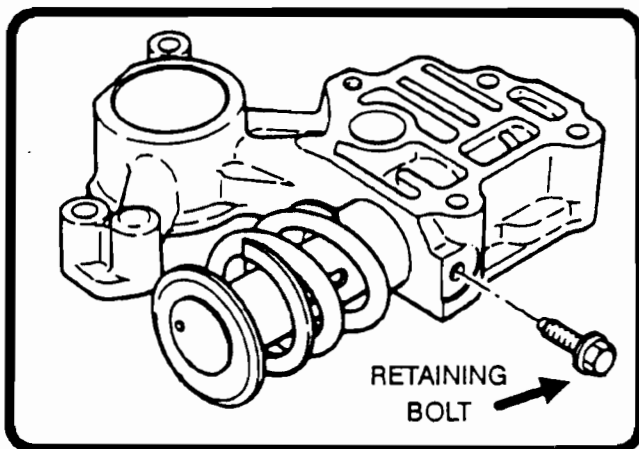

FIGURE 1
- CAUSE:** Pressure regulator retaining bolt jamming spring retainer (figure 1).